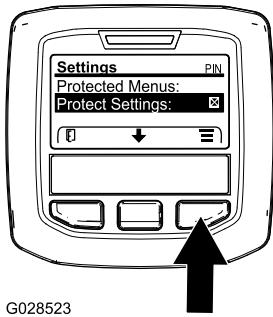

Figure 74
**Note:** If there is no X in the box to the right of Protect Settings entry, the sub-menus for L Boom, C Boom, R Boom, and Reset Defaults are not locked with the PIN (Figure 74).
**Note:** An X appears in the box to the right of Protect Settings entry (Figure 74).